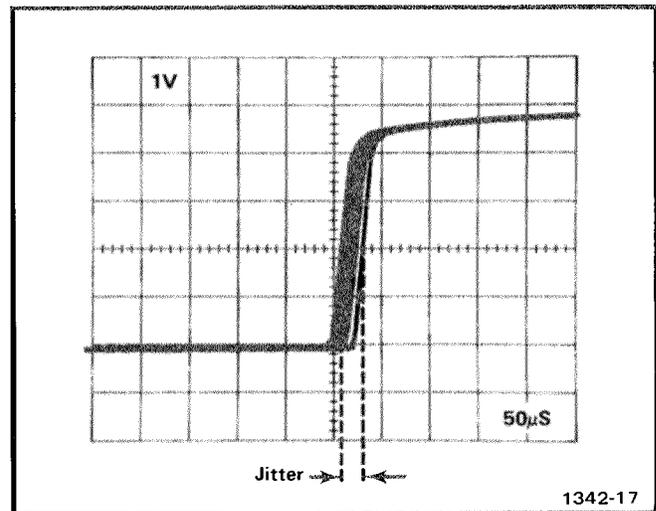

Fig. 2-16. Measuring pulse jitter.
**Example.** Assume that the horizontal movement is 0.5 division (see Fig. 2-16) and the DLY'D Time/Division switch is  $.5 \mu\text{s}$ .